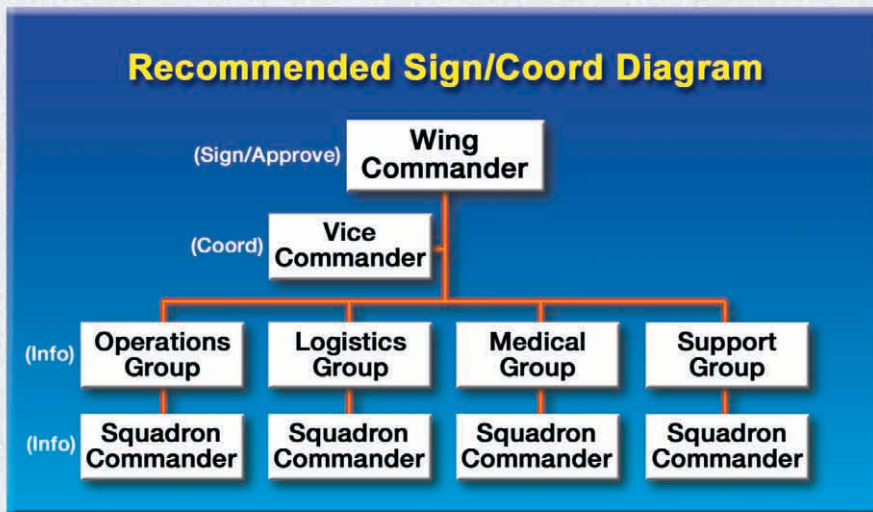

Figure 2
- Safety System Integrity: To maintain the integrity of the safety system, I recommend the following mishap report staffing protocol for a typical wing structure (see Figure 2).